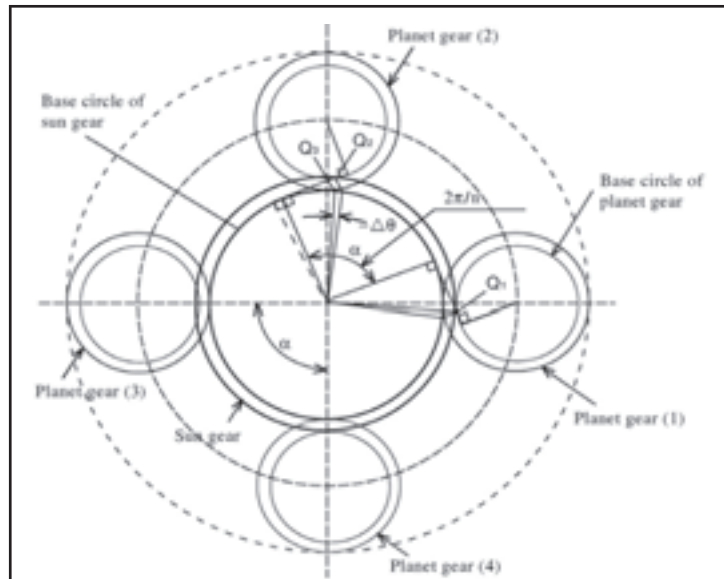

Figure 1—Schematic diagram of meshing phase difference in a planetary gear set with four planet gears.
The concept of a meshing phase difference between the sun gear and the planet gears of a planetary gear set is illustrated schematically in Figure 1. It is assumed that there is no meshing phase difference at the onset of meshing by the dedendum of a planet gear (1) and the addendum of the sun gear (point Q_1 in the figure) and the onset of meshing by the dedendum of a planet gear (2) and the addendum of the sun gear (point Q_2).